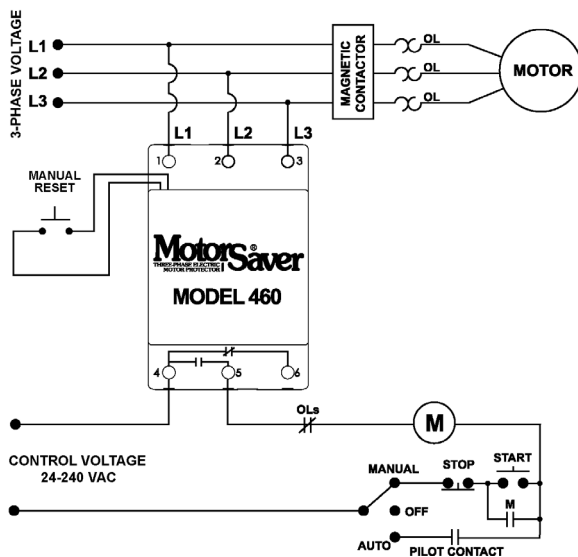
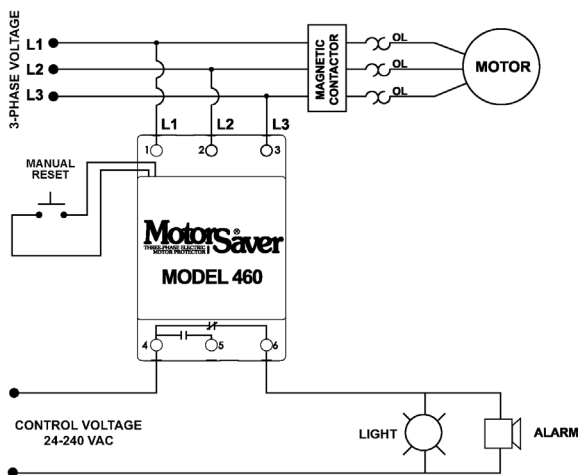

Figure 1. Control Wiring Diagram
Figure 2. Alarm Wiring Diagram
2. Connect L1, L2 and L3 on the MotorSaver's terminal strip to the LINE SIDE of the motor starter (see Figure 1).
3. Connect the output relay to the circuitry to be controlled. For motor control, connect the normally open contact in series with the magnetic coil of the motor starter as shown in Figure 1. For alarm operation, connect the normally closed contact in series with the control circuit as in Figure 2.